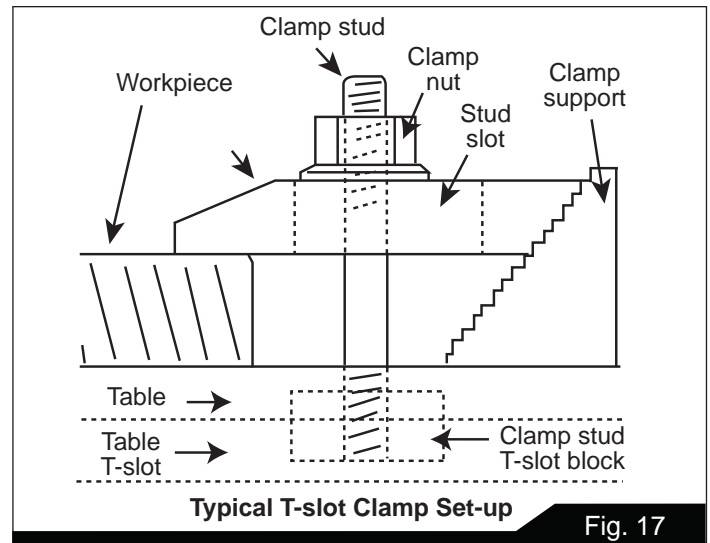

Fig. 17
4. Clamp the work piece using the T-slot clamps, studs, and step blocks as required (Figure 17).